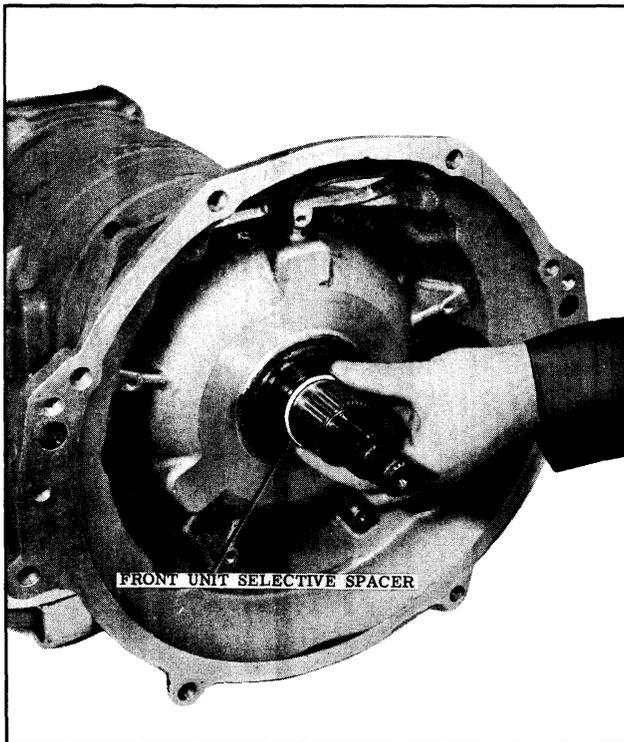

Fig. 3-23 Removing Selective Spacer
10. Remove the selective steel spacer from the hub of the front unit coupling driven torus. (See Fig. 3-23)